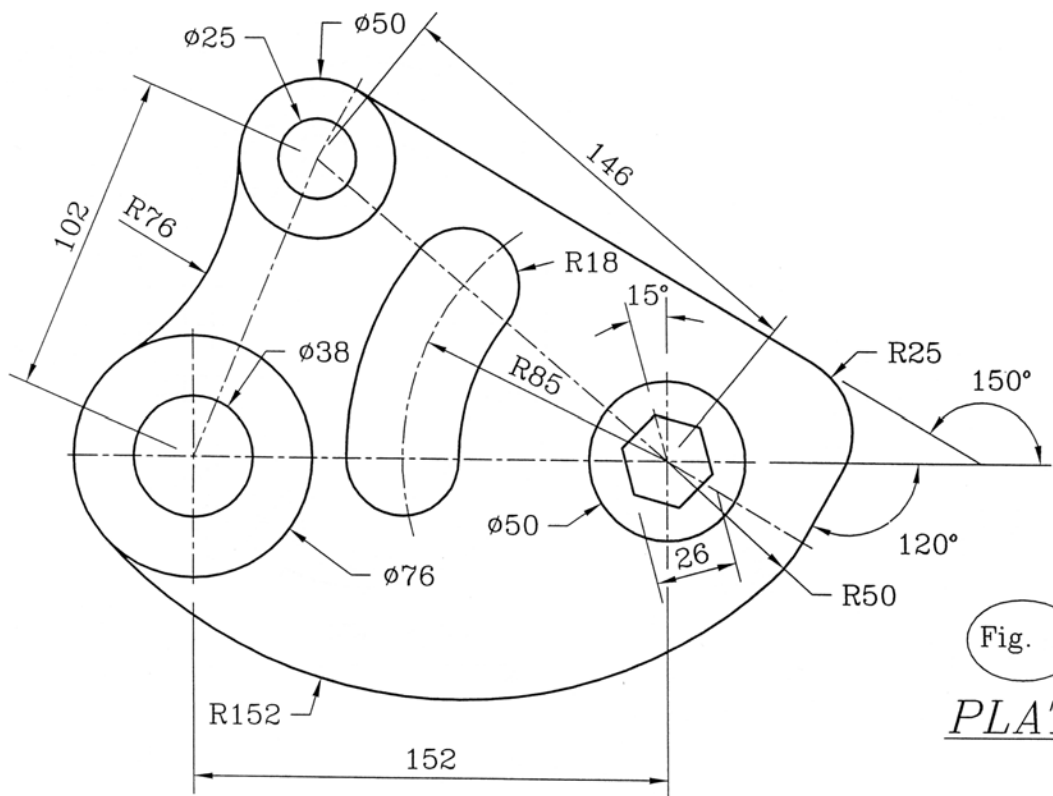

Fig. 1
1. Reproduce the front view of the **PLATE** as shown in **Fig. 1**.